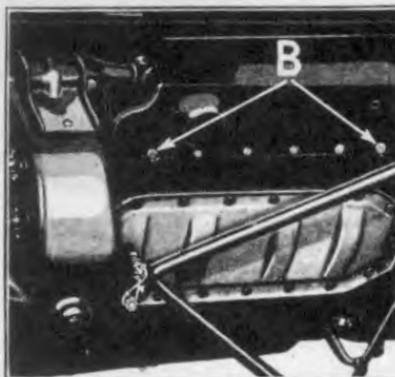

Fig. 27
24. **Remove engine pan-right** by loosening crankcase bolt and cap screw which holds pan to crankcase (See "B" Fig. 27) and withdrawing pan.